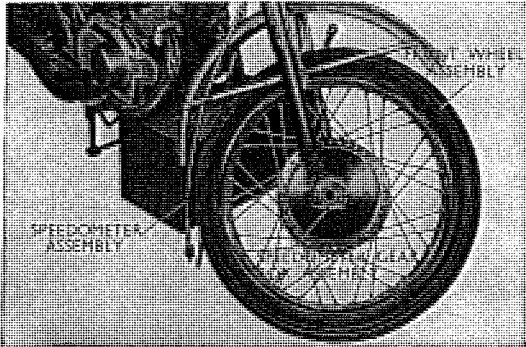

Fig. 4.13 Removing front wheel
4. When a proper bench is placed under the engine, the front brake torque bolt is removed, the 3×28 spring cotter pin is straightened and removed, the front wheel axle nut is loosened, and the front wheel axle is pulled out; the front wheel can be removed. (Refer to Fig. 4.13)